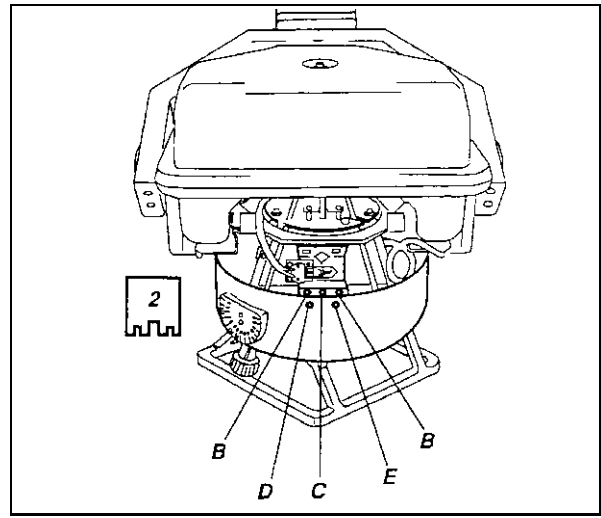

Fig. 30:
- Remove the protective plate (2/Fig. 30 / p. 52) covering the collimator lamp. Loosen the screws marked "B" by one turn. Do not remove them. Do not remove nuts "C", "D" and "E" in this process (Fig. 30 / p. 52).
- If the deviation is larger than 1.7%, correct the coincidence of the light and radiation fields by adjusting the nuts marked "D" and "E". (Fig. 30 / p. 52)